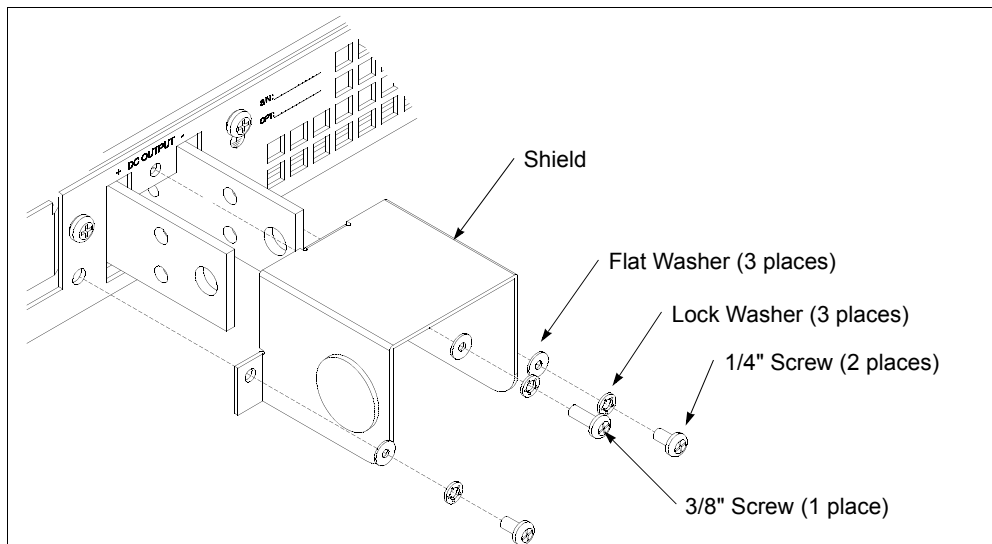

Figure 2.4 Bus Bar Shield
6 V to 40 V Models The 6 V to 40 V (low voltage) models have output bus bars and may come with a bus bar shield in some configurations. To detach the shield before connecting load wires, remove 6-32 x 1/4 in. screws (2), 6-32 x 3/8 in. screw (1), and lock washers and flat washers (3 places). See Figure 2.4.